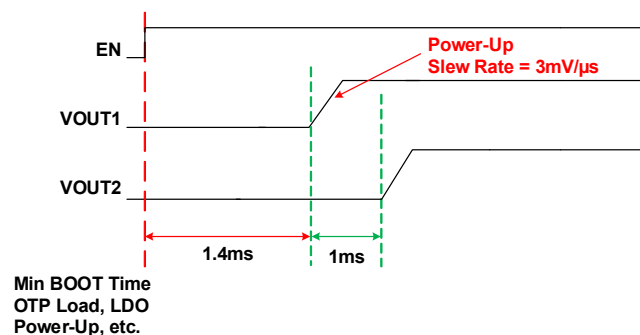

Figure 21. Master Chip Enable Power-Up Example
**Note:** The delay, BUCKx\_EN\_DLY[5:0] shown in Figure 21 as EN\_dlyx, is programmable from 0 to 63ms in 1ms steps.
Figure 21 provides an example of power-up configurability. The master chip enable pin (EN) transitions from 0 to 1 and OTP is loaded over 1.4ms. After the initial 1.4ms boot interval, the buck output start-up sequence begins. In the Figure 21 example, BUCK1\_EN\_DLY is set for 0ms and BUCK2\_EN\_DLY is set for 1ms.